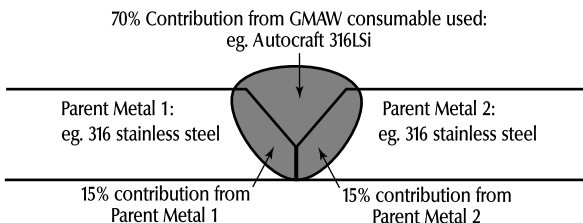

Figure 1. Example of 30% dilution in a stainless steel butt weld using the GMAW process with Autocraft 316LSi welding wire.
i.e. 30% dilution = 15% contribution from **parent metal 1**, + 15% contribution from **parent metal 2**, see Figure 1 below.